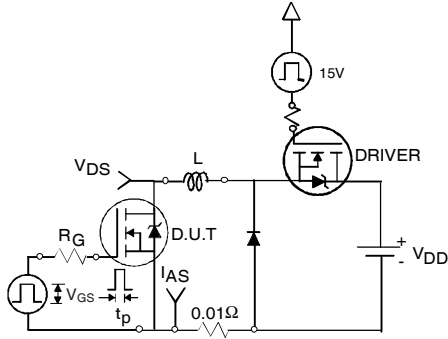

Fig 12a. Unclamped Inductive Test Circuit
| I_{AR} | Avalanche Current ④ | See Fig.12a, 12b, 15, 16 | A |
3. Equation below based on circuit and waveforms shown in Figures 12a, 12b.